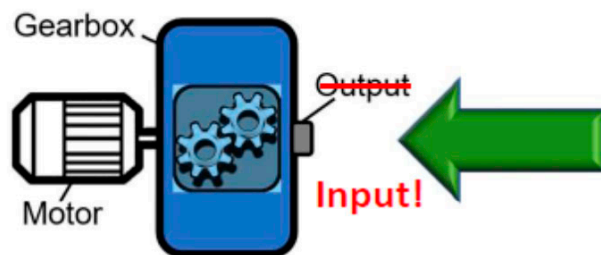

Figure 5—Backdrivability: Mechanical compliance from the input side.
mechanical compliance to be driven from the load side, managing contact with humans and undefined objects (Figure 5, ref 4). The backdrivability is characterized by its mechanical impedance consisting of the gearbox inertia, stiffness, and losses due to backlash and friction.